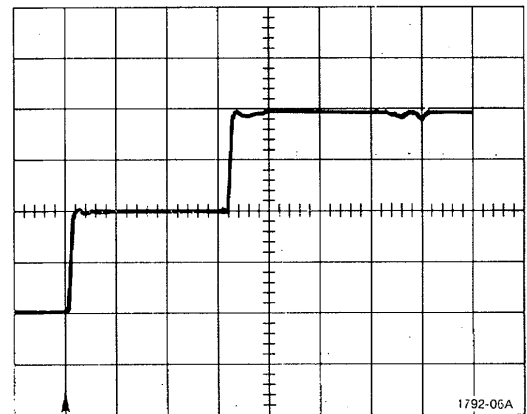

Figure 2-4. Incident and Reflected Pulses.
- The reflected pulse from the open end of the 50 Ω cable should appear 3 horizontal divisions to the right of the reference line in the non-metric version only. The open end of the cable is indicated by the start of a second rise in the trace (see Fig. 2-4).